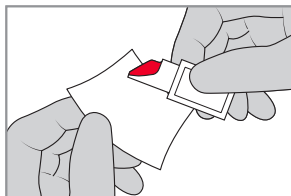
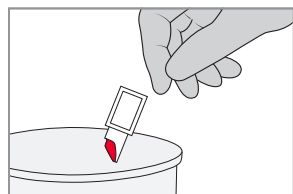

FIGURE 3-7
FIGURE 3-11
- d) To complete the measurement follow steps g-l and FIGURE 3-7 to FIGURE 3-11 in section 3.1 *Capillary blood*. Make sure to start measurement no later than 40 seconds after filling the Cuvette.